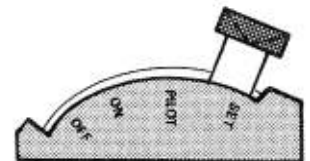
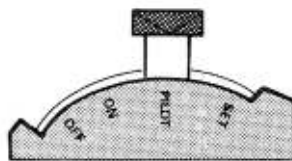

FIGURE 2
FIGURE 3
4. If you don't smell gas, hold match at pilot burner. **WARNING:** If pilot lights without moving selector arm to the "set" position, replace control. Push selector arm to the "set" position and hold it while lighting the pilot burner. (See figure 2.) Allow pilot to burn approximately 1 minute. If pilot does not remain lit after returning selector arm to "pilot" position, (see figure 3), repeat operation allowing longer period before releasing the selector arm. (Adjust pilot, if necessary, as noted under "Pilot Burner Adjustment".) The thermocouple may also be defective and should be checked (see Service Instructions.)